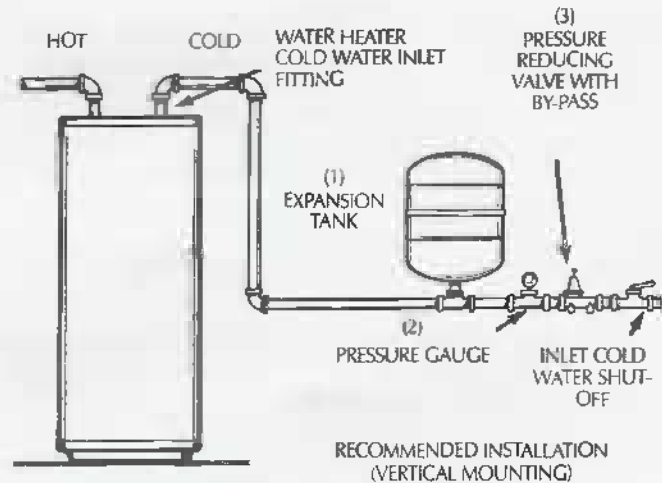
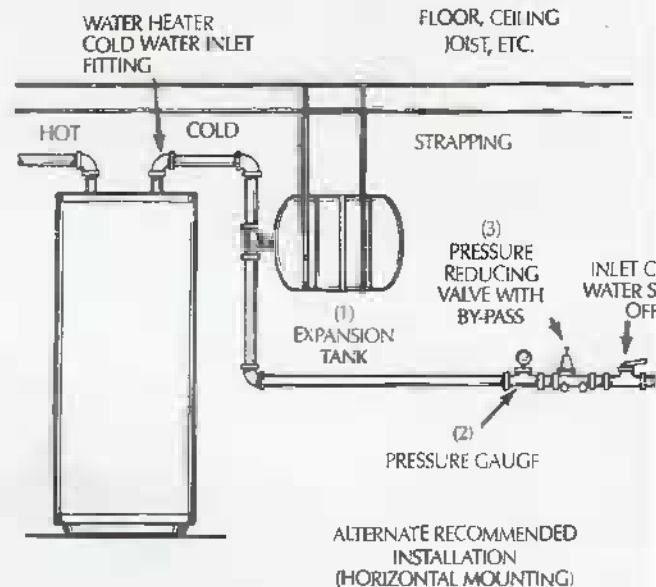

Figure 1
Figure 2
2. The items which must be installed in sequence in the cold water line are (1) the EXPANSION TANK must be installed at least 18 inches away from the cold water inlet fitting on the water heater, (2) the PRESSURE GAUGE, and (3) the PRESSURE REDUCING VALVE, if required. See Figure 1.
3. The expansion tank is designed to be supported by the system piping in the vertical position. If however, the expansion tank must be installed horizontally as shown in Figure 2, it must be supported by adequate strapping (not supplied).
Figures 1 and 2 on page 5 show the correct valves and fittings that you will need to install your expansion tank. A threaded (¾") water connection is supplied on the tank bottom.
2. The expansion tank is designed to be supported by the system piping in the vertical position (See Figure 1). If however, the expansion tank must be installed horizontally as shown in Figure 2, it must be supported by adequate strapping (not supplied).
3. Install expansion tank, pressure gauge and pressure reducing valve, if required, as shown in Figure 1 or 2.